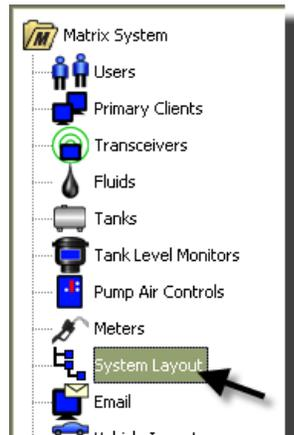

FIG. 136
1. To display the main System Layout setup screen, select **System Layout** from the list on the Matrix System Panel (FIG. 136). Before you setup the System Layout you must first add tanks (page 88) and meters (page 101).